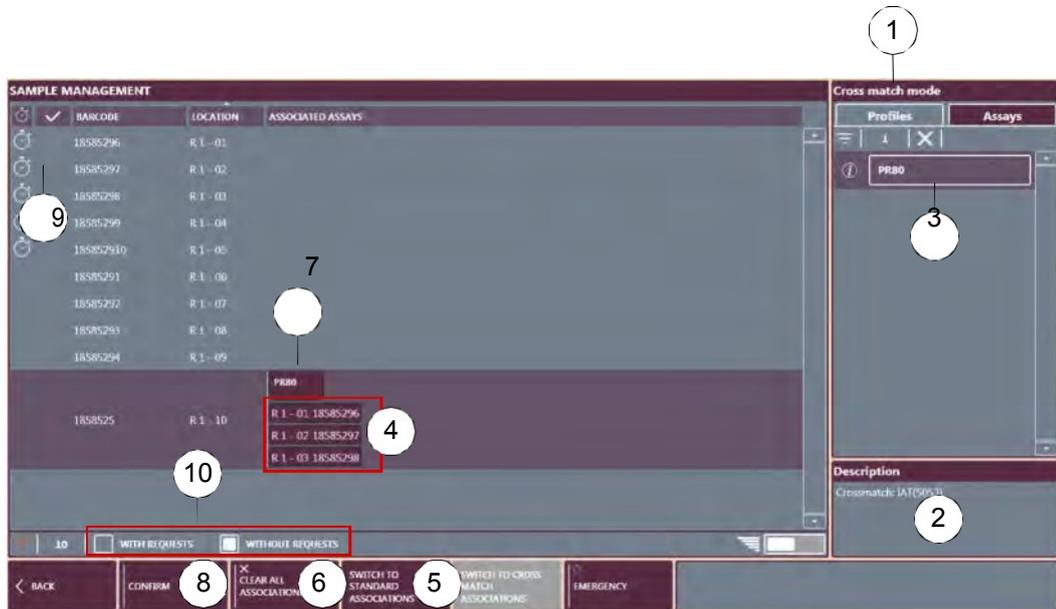

Figure 87. Samples management screen (Cross match mode)
Associated donors (4) and **Associated Assays** (7) are displayed (Figure 87).